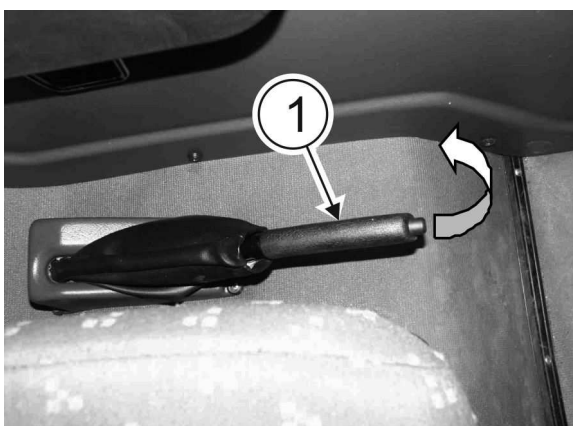

FIGURE 4.3 Parking brake (emergency).
- brake the tractor with parking brake **1** (**Figure 4.3**);